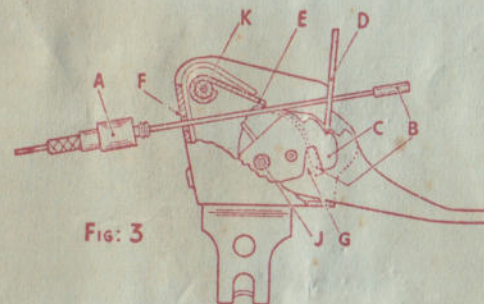

Fig: 3
Cable removal can be effected without taking the unit off the handlebars. The Control Cable Connector should be unscrewed from the Hub Toggle Chain Adjusting Pin and pulled forward through the Stop Clip, thus allowing free cable at the Control. The Cable Bush (A), refer to Fig. 3, is next unscrewed by pulling it outwards as it is rotated, in order that the screw threads may engage.